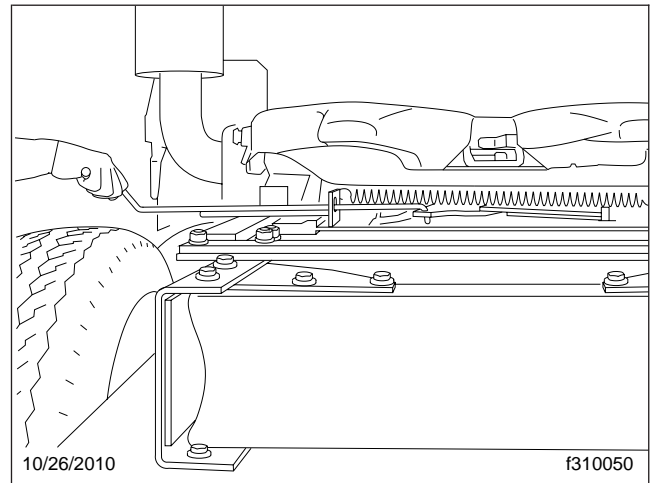

Fig. 10.17, Fontaine Sliding Fifth Wheel Manual Release
- 2.2 For manual release models, lift the slide release pull handle to disengage it from the guide plate. Then, pull out the handle (Fig. 10.17) until it is in the unlocked position and can be positioned against the guide plate to hold it out. The slide release pull handle will stay in the unlocked position until it is manually disengaged from the guide plate.